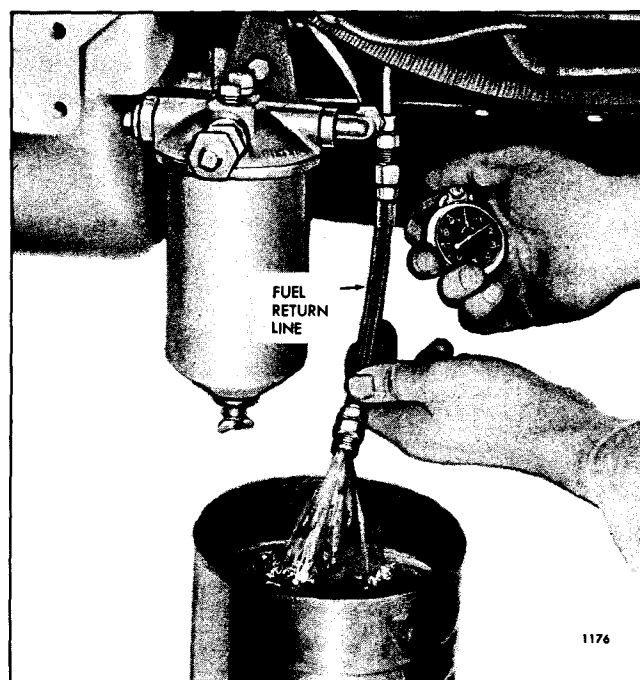

Fig. 4 - Measuring Fuel Flow from Fuel Return Manifold
1. Disconnect the fuel return hose from the fitting at the fuel tank and hold the open end of the hose in a suitable container (Fig. 4).